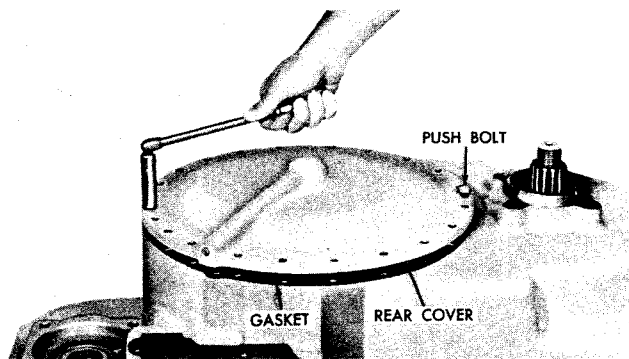

Fig. V-20. Removing main housing rear cover and gasket
(1) Position the transmission on blocks on the front split line. Remove 21 bolts and 21 lock washers from rear cover (fig. V-20).
(2) Using two of the bolts removed in the holes provided, push the cover off the main housing. Remove the rear cover and gasket (fig. V-20).